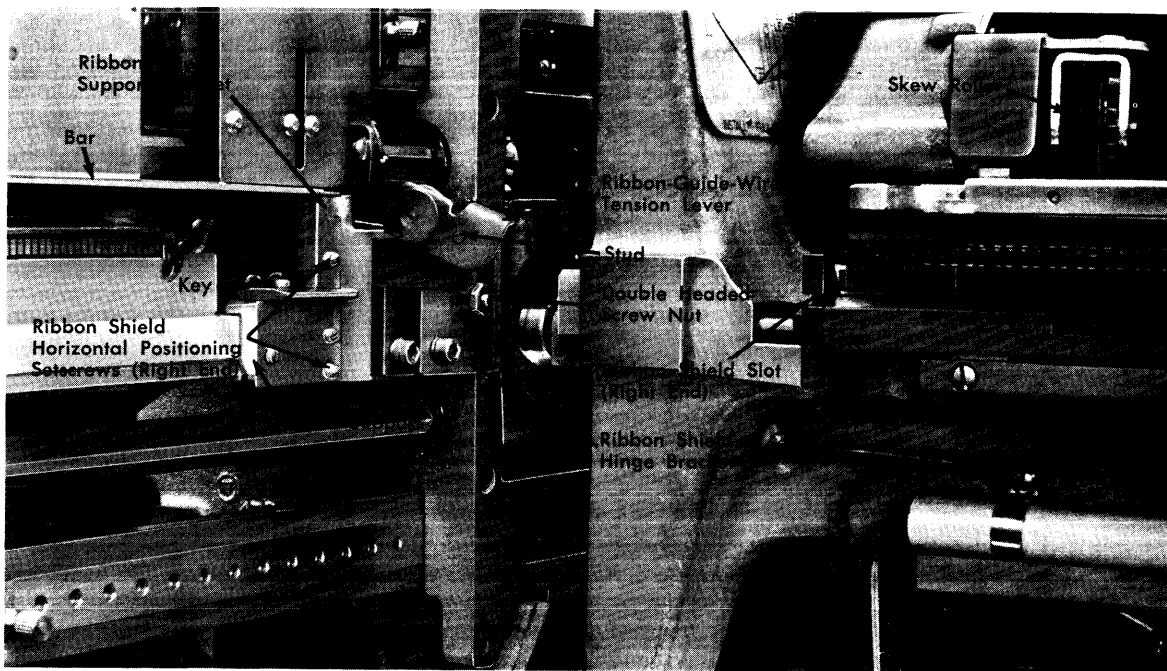

Figure 35. Ribbon Shield (Right End)
- a. That the key on the ribbon-shield support bracket enters freely into the slot in the right end of movable base (Figure 35).
3. Connect the spring to the stud on the tension lever. See Figure 35.